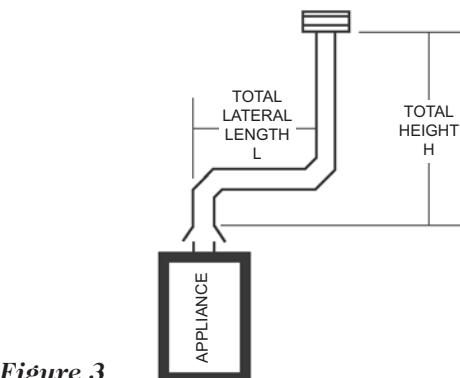

Figure 3
A **SINGLE-APPLIANCE VENT** is an independent vent for one appliance (Figure 3).
TOTAL HEIGHT (H) is the vertical distance measured between the appliance collar connection and the vent termination (Figure 3).
TOTAL LATERAL LENGTH (L) is the actual horizontal distance or length of offset between the appliance collar and the main vertical portion of vent (Figure 3).
MINIMUM TOTAL VENT HEIGHT is the vertical distance measured from the tallest appliance flue collar outlet in the system to the termination of the vent (see Figures 3 and 4). This minimum height is a fixed dimension for any one vent system regardless of the number or placement of appliances in the system.